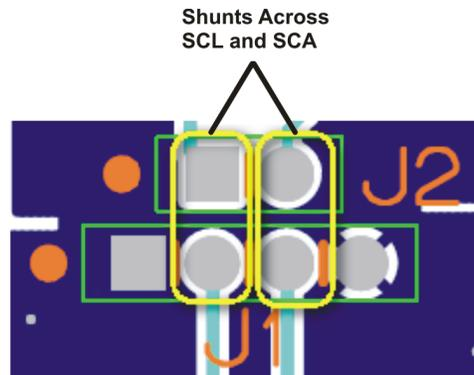

Figure 3. Place Shunts Horizontally Across SCL and SDA
5. Install shunts in J1 and J2 as shown in Figure 3. This sets the TPA2051D3 to accept I²C inputs from the EVM itself.